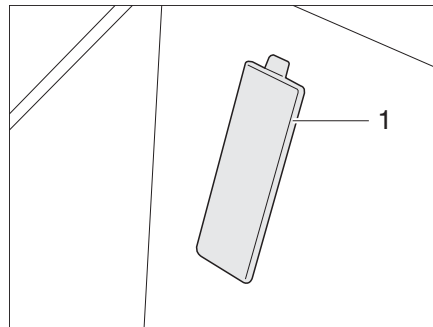

Fig. 318 Cover for chassis number (Fiat base vehicle)
- ▷ For vehicles on a Fiat chassis, the chassis number is located behind a cover (Fig. 318,1) in the entrance on the front passenger's side.